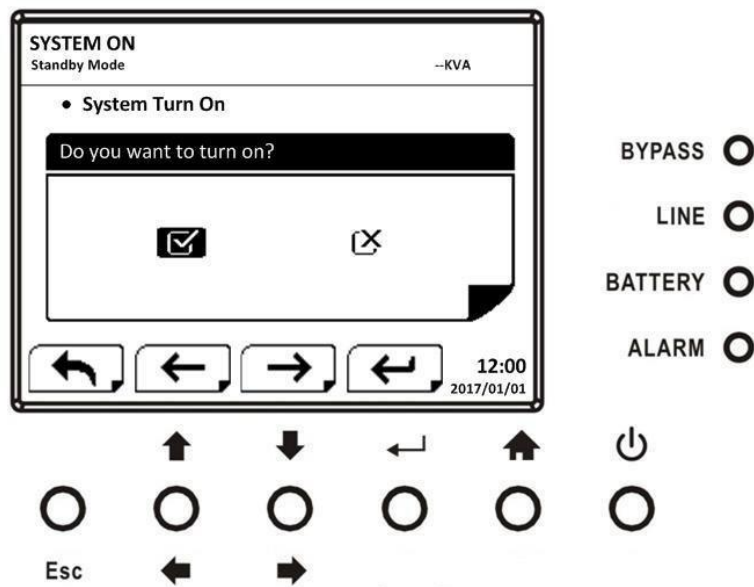

Figure 5-8 Confirmation screen
When the control option is selected by pressing “” button, the confirmation screen will pop up. Use “” or “” button to choose “V” (YES) or “X” (NO). Choose “V” and press “” button to confirm command or choose “X” to cancel command, as shown in Figure 5-8.